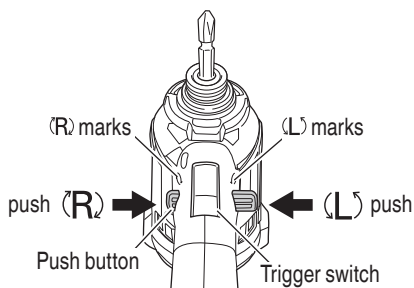

Fig. 8
The L-side of the push button is pushed to turn the bit counterclockwise (See Fig. 8). (The (L) and (R) marks are provided on the body.)